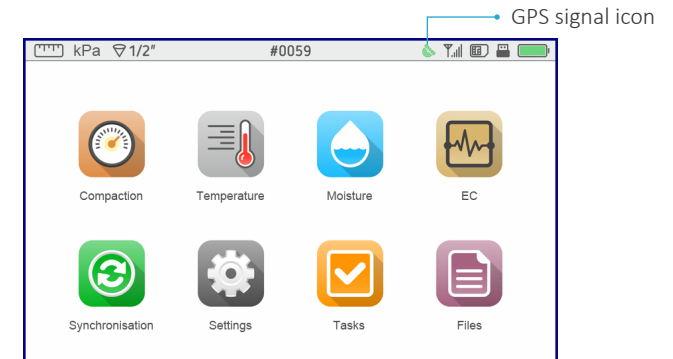
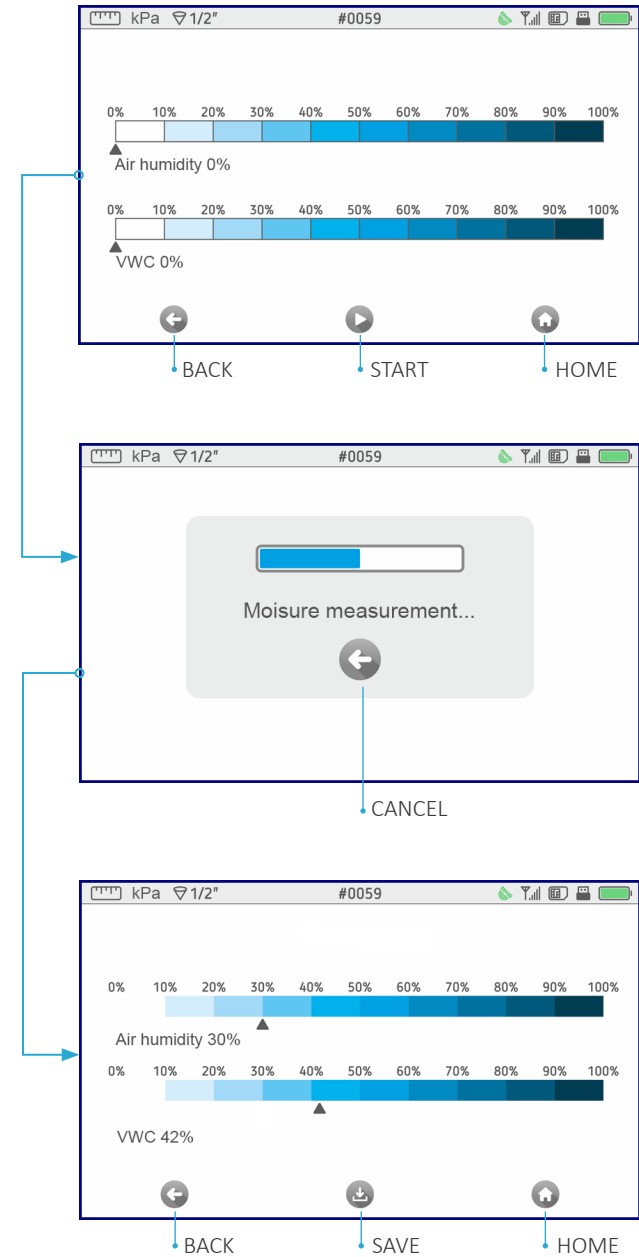
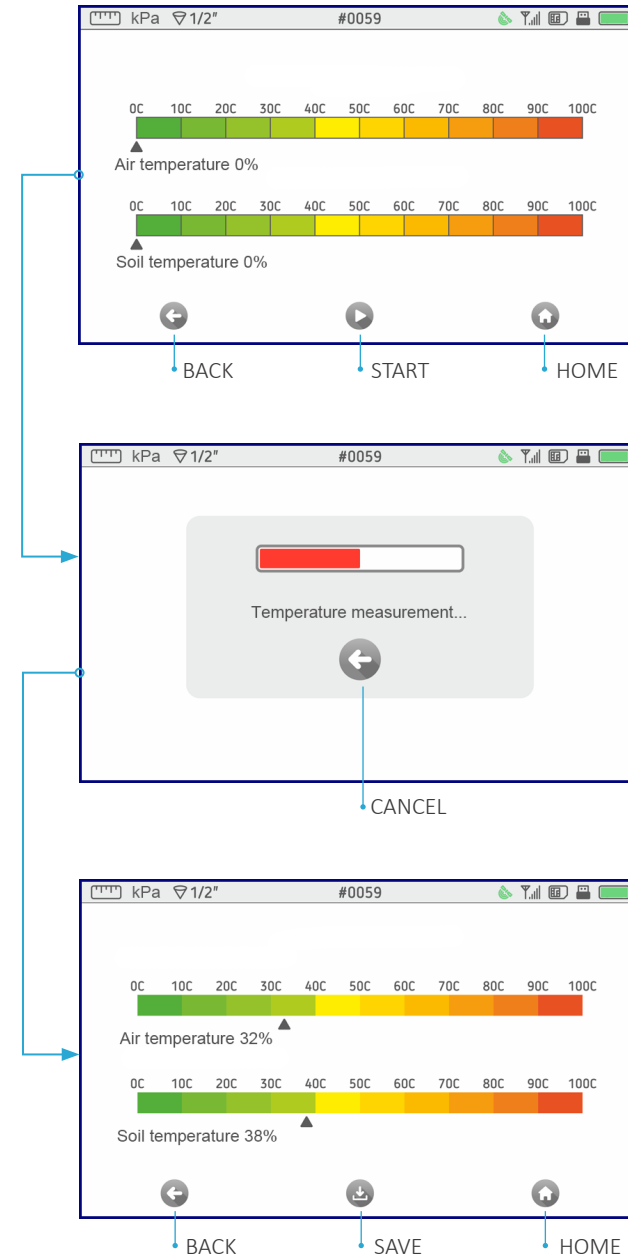
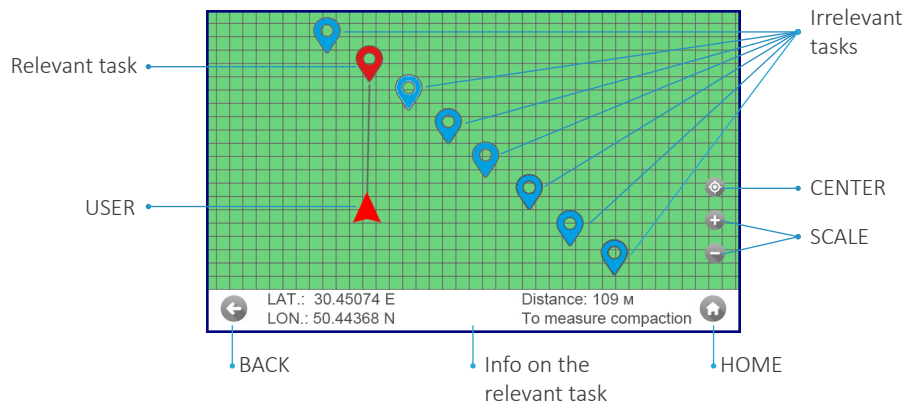

Figure 14
Figure 19
Figure 20
Figure 29
On HOME page press COMPACTION button to switch to the compaction measurement mode. Before beginning the compaction measurement, make sure that you have completed all the necessary settings and preparatory actions to measure. Wait for the signal from the GPS satellite, the satellite icon at the upper right of the display will turn green (Figure 14).
Before beginning the compaction measurement, make sure that you have completed all the necessary settings and preparatory actions to measure (see page 6), Move down the penetrometer with a pointed cone to the depth reference plate without pushing it into the ground. On HOME page press MOISTURE button. Wait for the signal from the GPS satellite, the satellite icon at the upper right of the display will turn green (Figure 14).
In the case of a static measurement at a certain depth, the depth reference plate is not used. Wait for the signal from the GPS satellite, the satellite icon at the upper right of the display will turn green (Figure 14). Dip the sensor to the desired depth and press START. The measurement process takes about ten seconds. To return to the main page, press HOME or BACK (Figure 19).
Measurement of the air temperature is carried out using the built-in sensor. To measure the temperature of the soil, use an external sensor (see page 4 item 11). Connect the sensor to the penetrometer and press TEMPERATURE on the HOME page. Wait for the signal from the GPS satellite, the satellite icon at the upper right of the display will turn green (Figure 14). Dip the sensor to the desired depth and press START. The measurement process takes about ten seconds. To return to the main page, press HOME or BACK (Figure 20).
Select the desired task that you need to complete. Wait for the signal from the GPS satellite, the satellite icon at the upper right of the display will turn green (Figure 14). Once the necessary task is selected, the navigation map will be displayed on the screen (Figure 29).